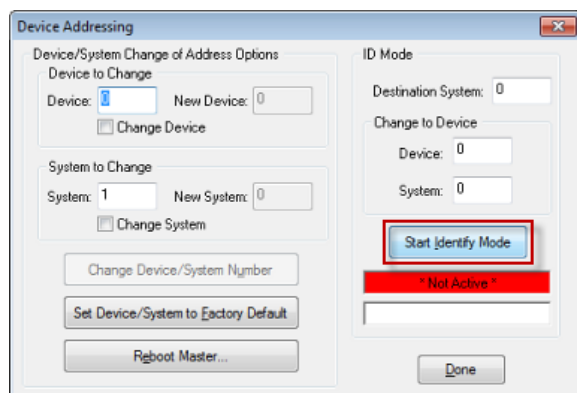

FIG. 12 Device Addressing dialog
1. Access the *Device Addressing* dialog (FIG. 12) by selecting **Diagnostics > Device Addressing**.